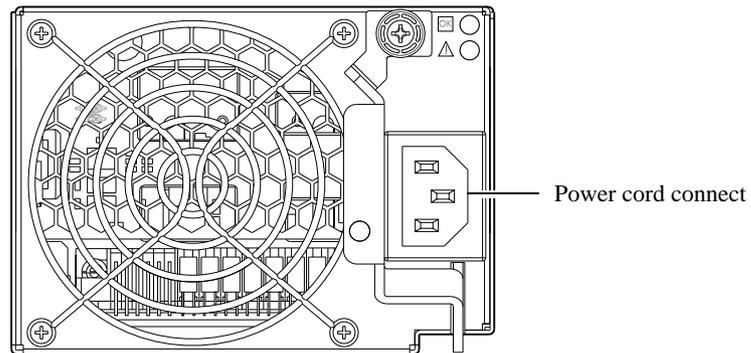
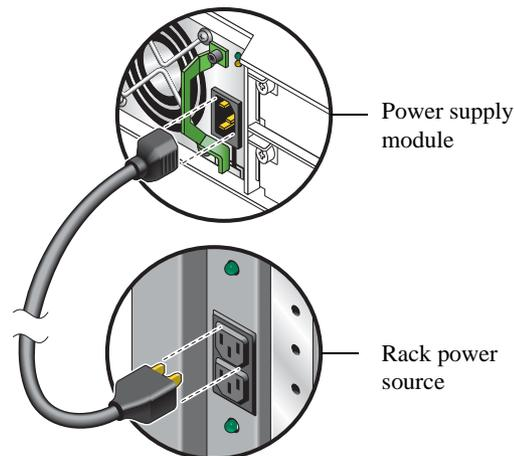
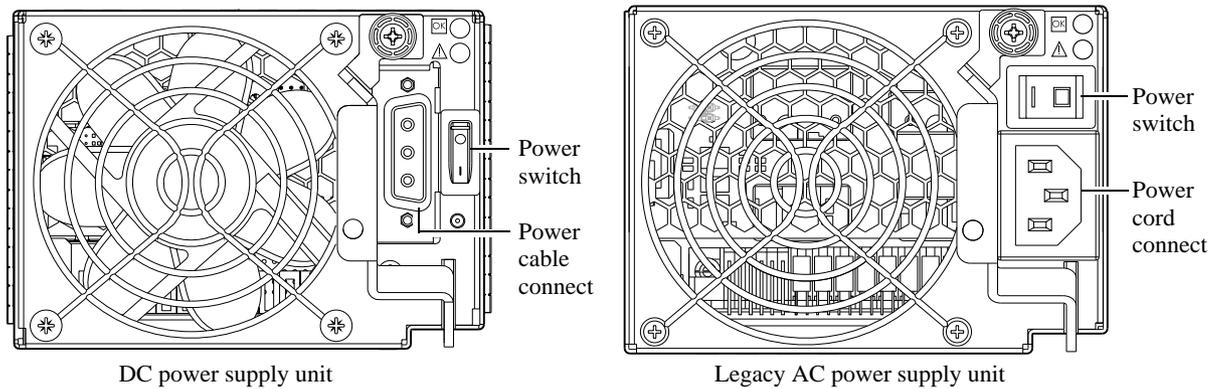

Figure 9 AC PSU
Figure 10 AC power cord
Figure 11 DC and AC PSUs with power switch
Phoenix RPC12 series controller enclosures — available in 12-drive (3u) chassis — support up to eight enclosures (including the controller enclosure), or 144 disk drives. You can also configure drive enclosures of mixed type as shown in Figure 9 on page 28. The firmware supports both *straight-through* and *reverse* SAS cabling. Reverse (fault-tolerant) cabling allows any drive enclosure to fail — or be removed — while maintaining access to other enclosures. Fault tolerance and performance requirements determine whether to optimize the configuration for high availability or high
1. Plug the power cord into the power cord connector on the back of the drive enclosure. Plug the other end of the power cord into the rack power source (see Figure 9 and Figure 10). Wait several seconds to allow the disks to spin up.
2. Plug the power cord into the power cord connector on the back of the controller enclosure. Plug the other end of the power cord into the rack power source (see Figure 9 and Figure 10).
See Figure 10 and the illustration at right (in Figure 11) when performing the following steps:
See Figure 12 and the illustration at left (in Figure 11) when performing the following steps: